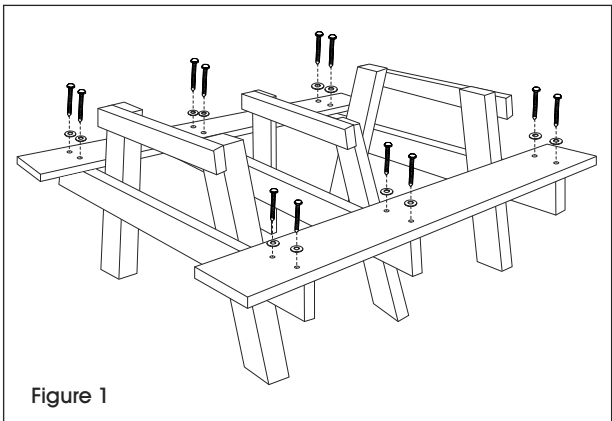

Figure 1
4. Loosely attach seat boards to A-Frame base with the 3/2" lag screws and washers using the power drill and 7/16" socket bit (will tighten later in step 6). (See Figure 1)